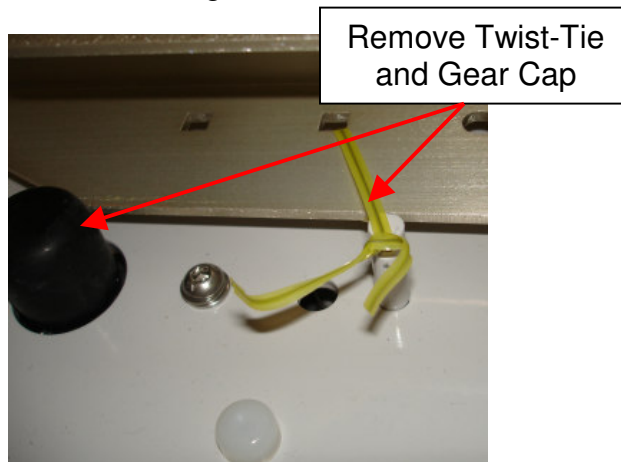

Figure 2
2. Remove twist-tie and black gear cap from main tracker structure. See Figure 2. CAUTION: Waterproof grease is applied to the motor gear under the cap. Save cap with residual grease for use later in the installation.